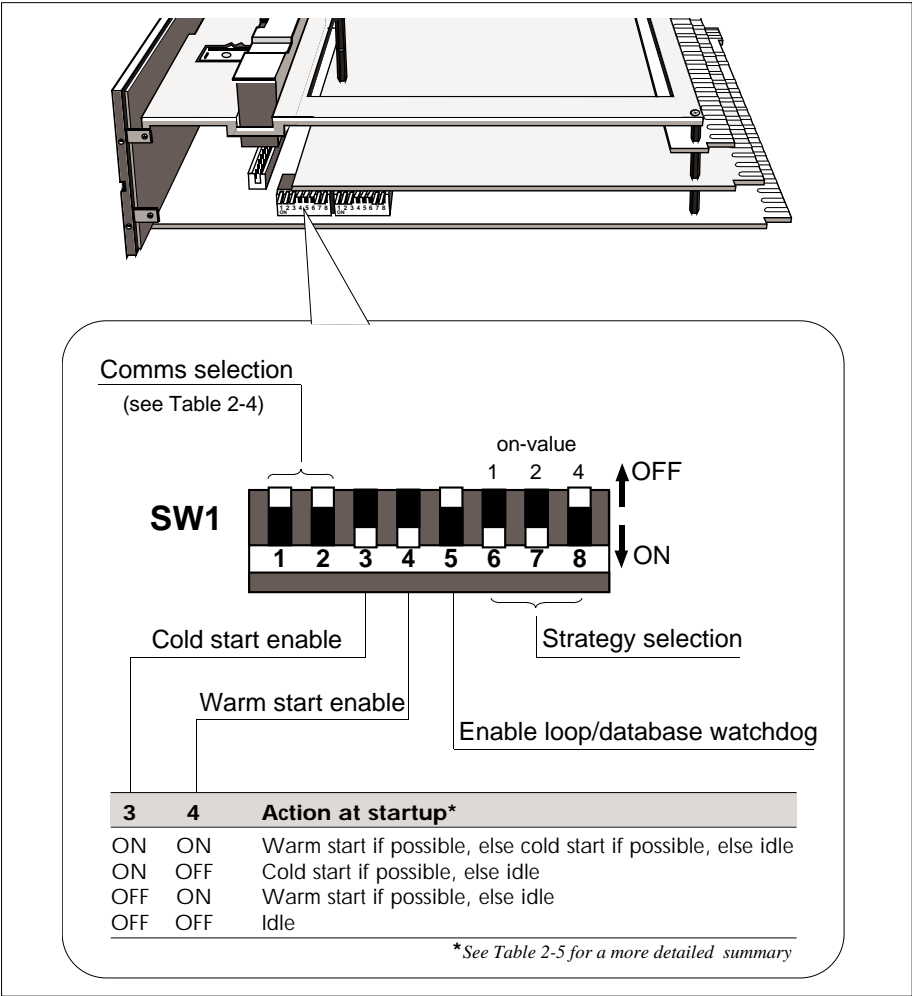

Figure 2-12 SW1 location and functions
Figure 2-12 shows the location and functions of the eight switches in DIL switchbank 1.
- Switches 6, 7, and 8 select the number of a preconfigured fixed-function strategy to be loaded to RAM and if possible run in the T640. The strategy selected is the sum of the ‘values’ of the three switches (OFF = 0, ON = ‘value’ as shown in Figure 2-12). E.g. strategy #3 has been selected in the figure. Setting these three switches all OFF prevents any standard strategy being loaded. Running standard strategies is explained in Chapter 5, *Fixed function strategies*.
The location of SW1 was shown in Figure 2-12, and the functions of switches 3 and 4 briefly summarised. Table 2-5 below provides more detail on the effect of the four possible switch setting combinations.